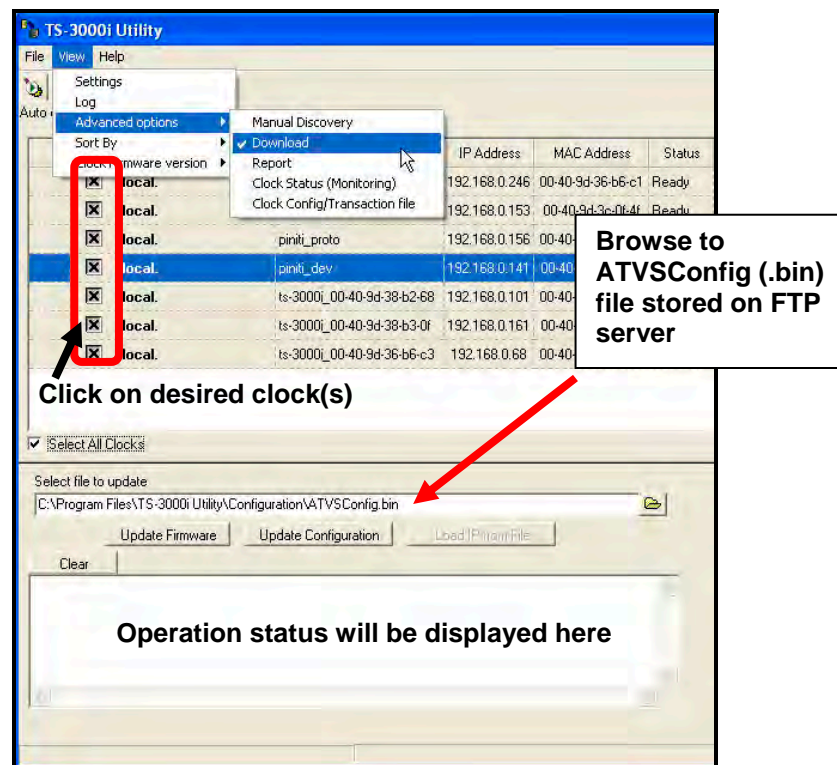

Figure 5-11. Auto Discovery Download.
- Step 1. Startup the TS-3000i Utility. All of the discovered TS-3000i clocks will automatically appear in a list with the **Domain**, **Device Name**, **IP Address**, **MAC Address**, and **Status**. Select the desired TS-3000i clock(s) from the list by clicking in the "Select" column (see *Figure 5-11*). Click "Select All Clocks" to select/deselect all discovered clocks (this is the default).